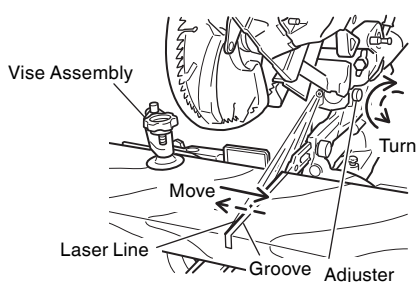

Fig. 20
- (2) Then, turn the adjuster and shift the laser line. (If you turn the adjuster clockwise, the laser line will shift to the right and if you turn it counterclockwise, the laser line will shift to the left.) When you work with the ink line aligned with the left side of the saw blade, align the laser line with the left end of the groove. (Fig. 20) When you align it with the right side of the saw blade, align the laser line with the right side of the groove.